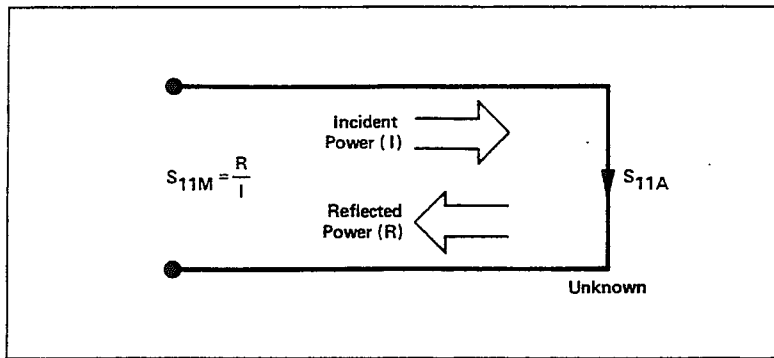

Figure 7-50. Reflection Coefficient
Measuring reflection coefficient. The reflection coefficient is measured by first separating the incident signal (I) from the reflected signal (R), then taking the ratio of the two values (Figure 7-50). Ideally, (R) consists only of the signal reflected by the test device (S_{11A}).